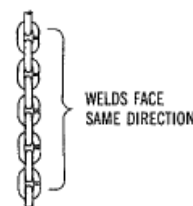

FIGURE 2
4. Check that chain is not twisted at bottom hook. All welds should face same direction (Figure 2).